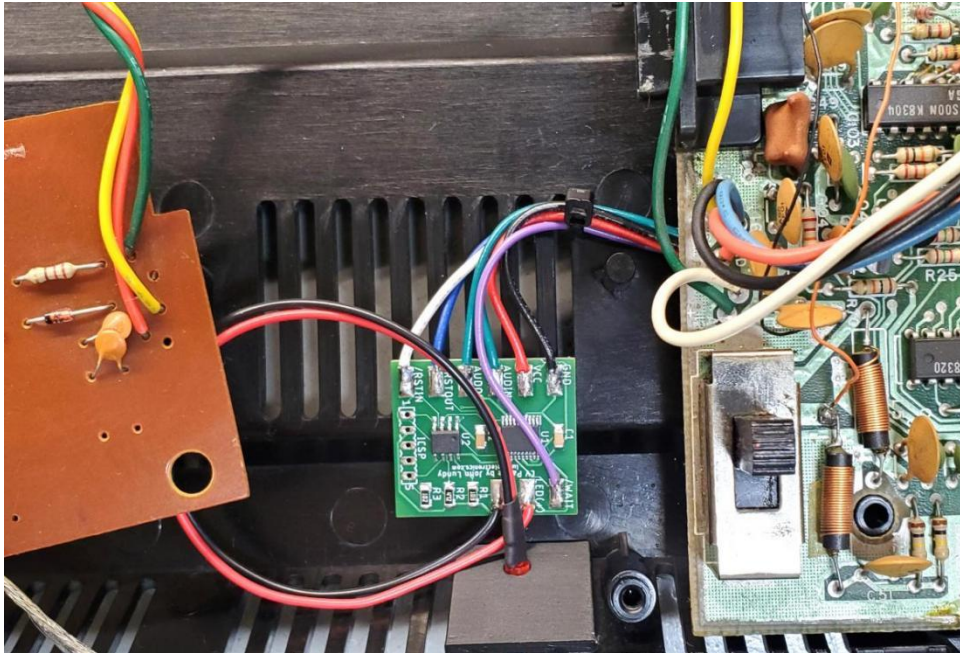

Figure 13: Placement of Pause Mod PCB with single LED assembly
Step 11: Reinstall PCB for final mounting installation, place the Pause Mod PCB as shown in **Figure 13**. If single LED assembly option was installed, push the indicator LED into the mounting bracket. It is designed to fit snugly so it can be removed later if needed. Hot glue can be used to hold it more securely if desired.